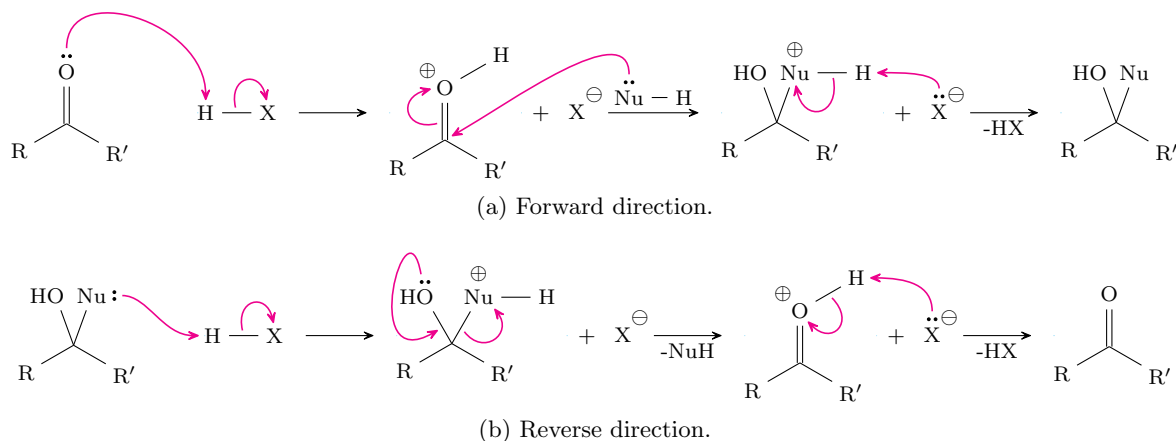

Figure 16.8: Nucleophilic addition/elimination with carbonyls (acid-promoted).
- Picking up from last time with acid- and base-catalyzed nucleophilic addition to carbonyls (Figures 16.8 and 16.9).